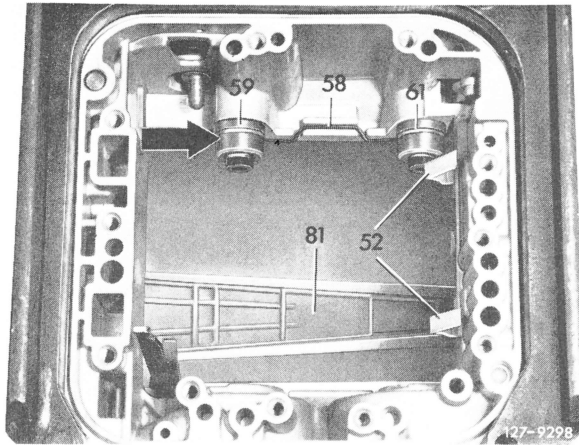

Fig. 19
**28** Remove locking clip (58) for thrust body B 1 (59) and B 2 (61) and remove both thrust bodies (Fig. 19).
**29** Remove upper brake band guide (81) and lower brake band guide for B 2 (52) from housing (Fig. 19).